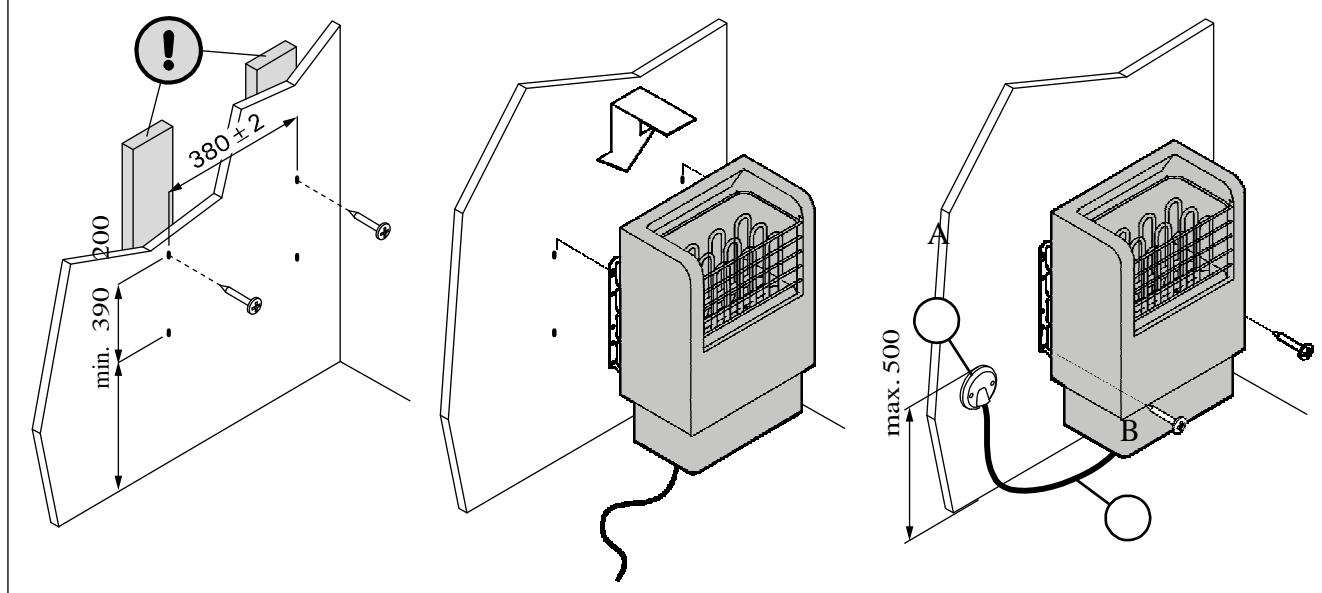

Figure 8. Fastening the heater on a wall (all dimensions in millimeters)
See figure 8.
- The heater is semi-stationarily connected to the junction box (figure 8: A) on the sauna wall. The junction box must be splash-proof, and its maximum height from the floor must not exceed 500 mm.
- The connecting cable (figure 8: B) must be of rubber cable type H07RN-F or its equivalent.